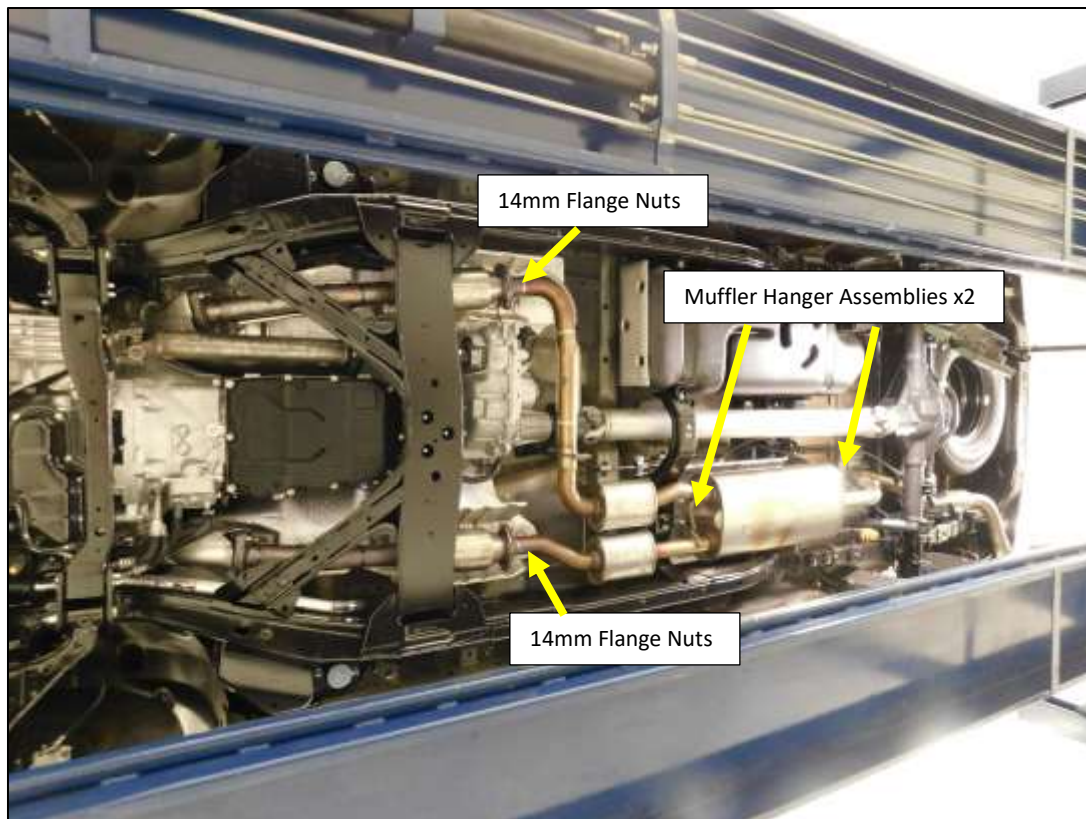

Figure 2
6. Remove the (x2 each) 14mm nuts at the flanges connecting the muffler inlet pipes to the catalytic converter. **Fig.2**